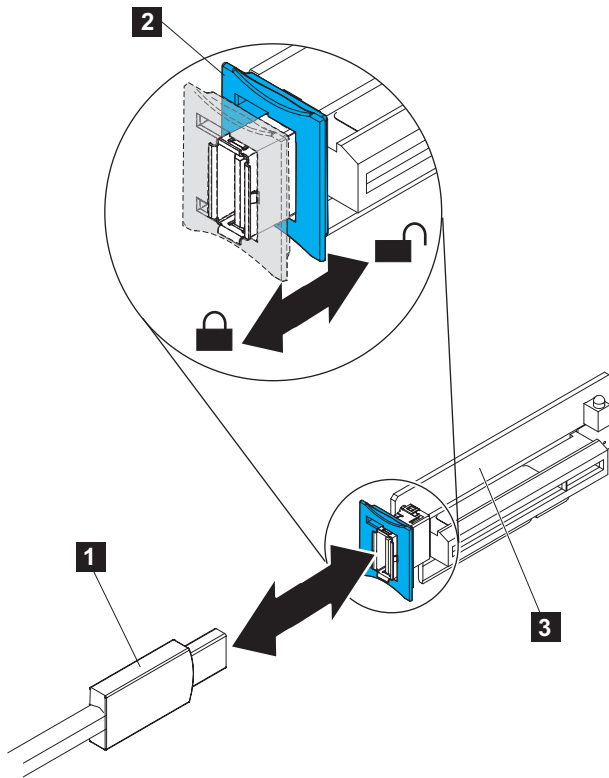

Figure 81. USB service-controller cable connector on the USB riser card
c. Grasp the blue lockbar (2 in Figure 81 on page 81) and slide it toward the USB riser-card assembly (3) to the unlock position and remove the USB cable (1) from the connector.
- b. Align the USB service-controller cable ( **1** in Figure 81) with the connector on the USB riser-card assembly ( **3** ) and push it into the connector until it is firmly seated.